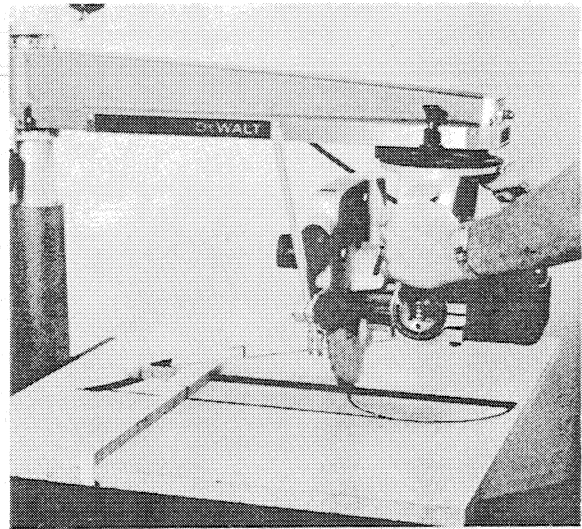

FIGURE 2
- (e) With the saw still running, release yoke clamp handle and locator pin. You can now rotate the yoke in a clockwise direction. Continue rotating the yoke until the spring mounted yoke locator pin falls into the next hole. You have now cut in the table top a 1/4 turn groove known as the swing line. The saw is now in the "in-rip" position. (Refer to figure 2) Loosen Rip Lock.